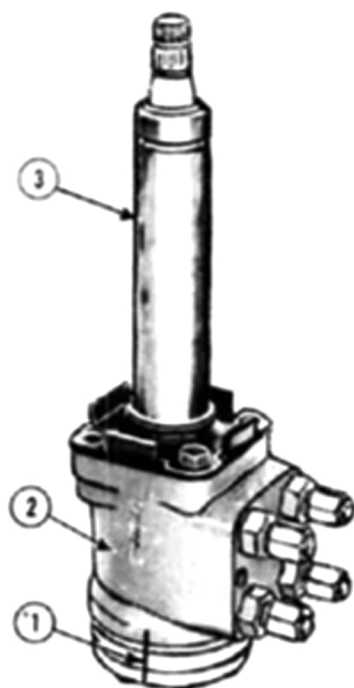
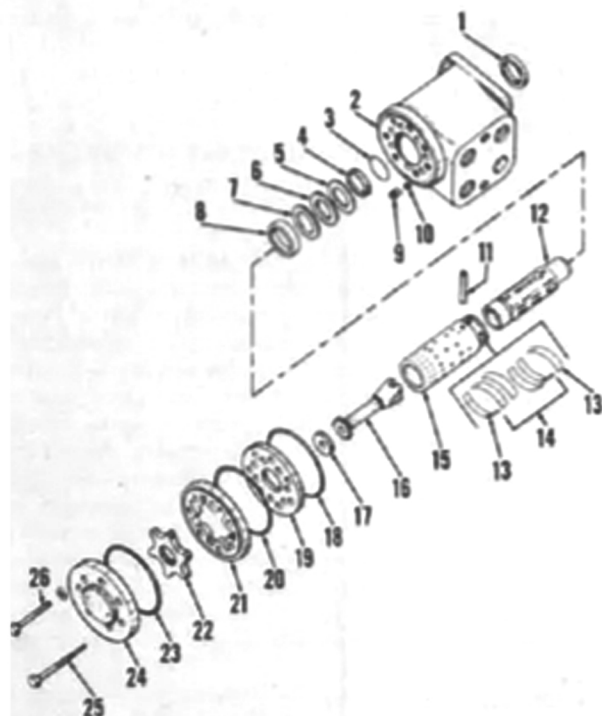

Fig. 30—View of steering valve (hand pump) used on all models.
Fig. 31—Exploded view of steering valve assembly.
22. **OVERHAUL.** Clean exterior of unit and scribe match marks on end plate, rotor plate, distributor plate and valve housing as shown in Fig. 30. Unbolt and remove steering column and shaft (3) from steering valve. Clamp valve housing in a soft jaw vise in inverted position and remove end plate cap screws (25 and 26-Fig. 31).